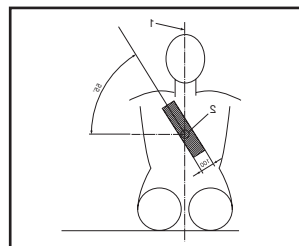

Figure 4
- The diagonal belt must be positioned across the occupant's shoulder and chest as shown in Figure 4.